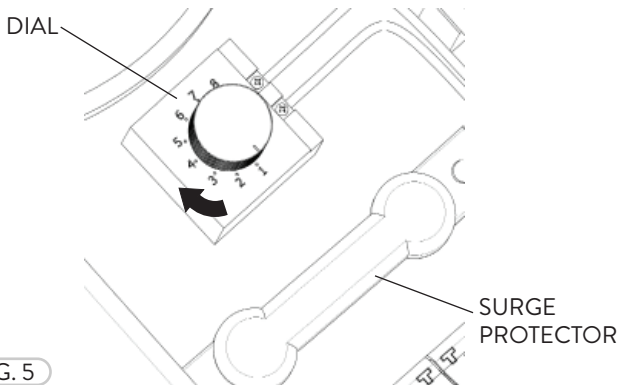

FIG. 5
- 3 The input power and light output of the FHMA fixture can be adjusted by simply turning the Dial from 1 to 8 (Fig. 5). (8 = full output, 1 is the minimum output. Output range: 25%, 40%, 50%, 60%, 70%, 80%, 90%, 100%, factory setting '8')